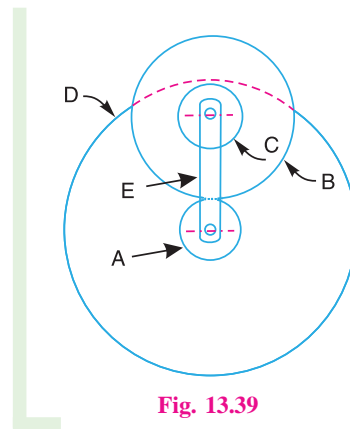

Fig. 13.39
10. A reverted epicyclic gear train for a hoist block is shown in Fig. 13.39. The arm E is keyed to the same shaft as the load drum and the wheel A is keyed to a second shaft which carries a chain wheel, the chain being operated by hand. The two shafts have common axis but can rotate independently. The wheels B and C are compound and rotate together on a pin carried at the end of arm E . The wheel D has internal teeth and is fixed to the outer casing of the block so that it does not rotate.